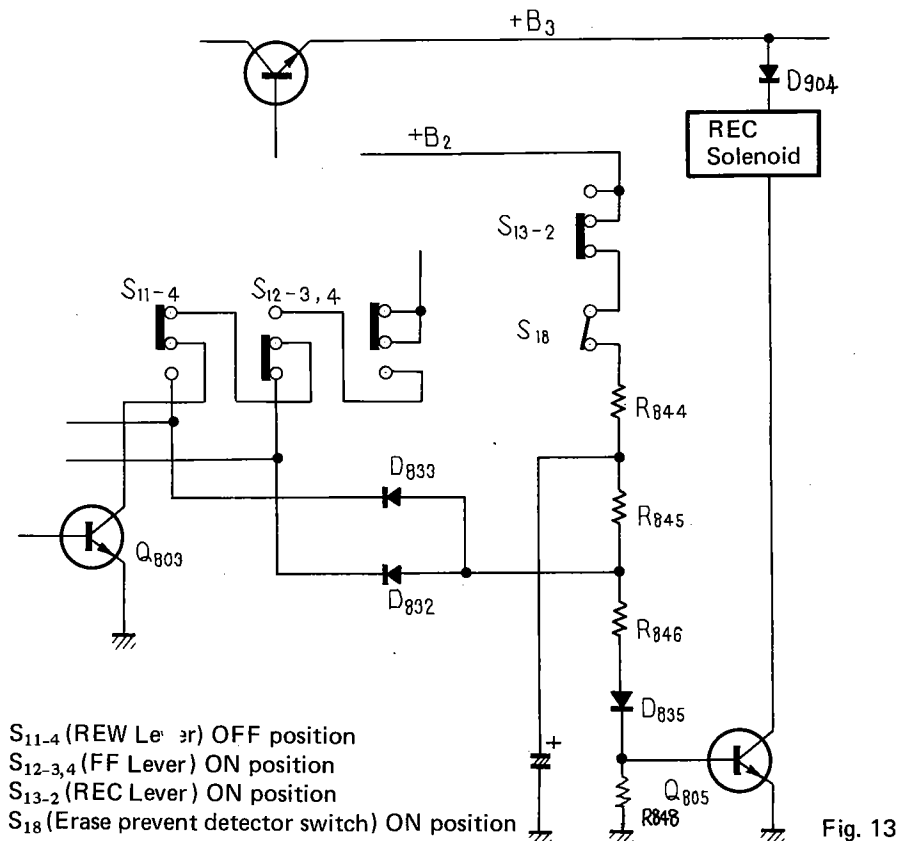

Fig. 13
6.13 ERASE PREVENTING CIRCUIT (Fig. 13)